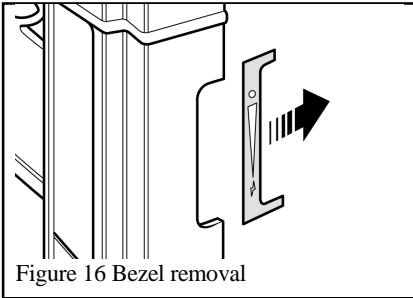

Figure 16 Bezel removal
- The side control bezel is not applicable for this appliance. Remove the bezel from the right side of the front unit by firmly pulling it back from the side casting. See figure 16. Be careful not to scratch the paint.